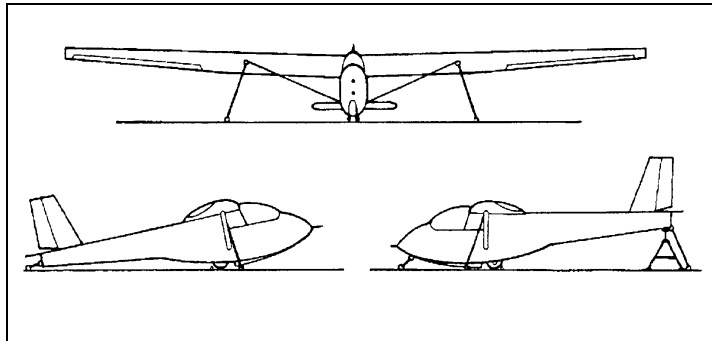

Figure 2-2-3 Glider Tie-Downs
29. **Representative Glider Tie-Down Methods.** See Figures 2-2-3, 2-2-4 and the text that follows.